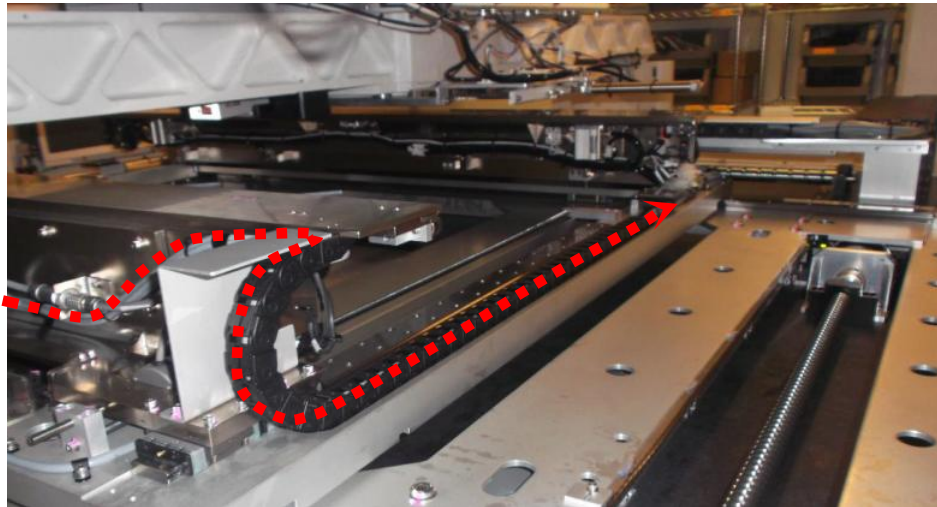

Figure 11 Stepper Motor Cable Removal (AWA E-Chain)
15. Remove 4XASC-A078 from AWA E-Chain as below Figure 11